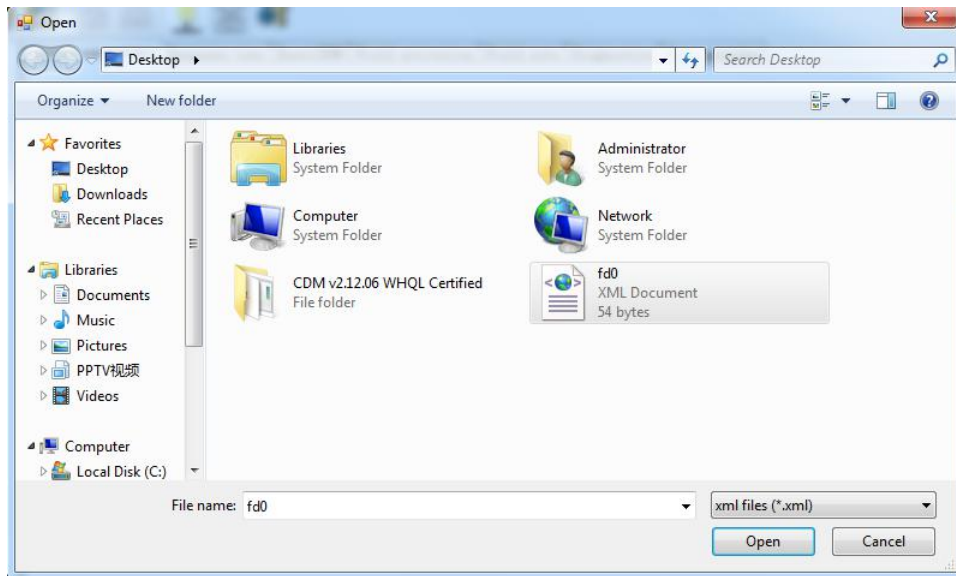

Fig 3.2.9 Import area configuration file
Step①: Click  on the toolbar and select a saved zone configuration file “fd0.xml” with a name suffix of .xml, as shown in Fig3.2.9
Step②: Click [Open] button to import the zone configuration file, as shown in Fig.3.2.9.